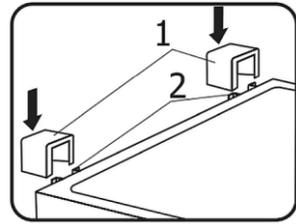

Fig. 2
8. Use two supports (1) and insert them in guides (2) in the top section of the rear wall (Fig. 2).